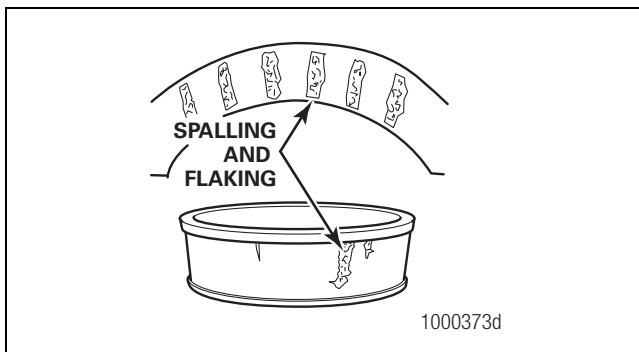

Figure 5.5
- There is damage on the cup and the cone inner surfaces that touch the rollers. Figure 5.5.